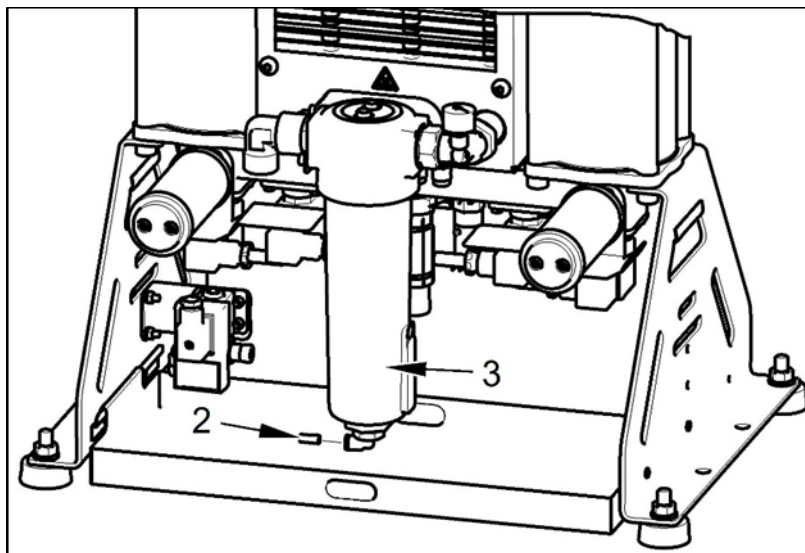

Fig. 35: Venting pressure from the cooler and condensate separator
- Disconnect the hose (2) from the lower part of the condensate separator (3) (Fig. 35).